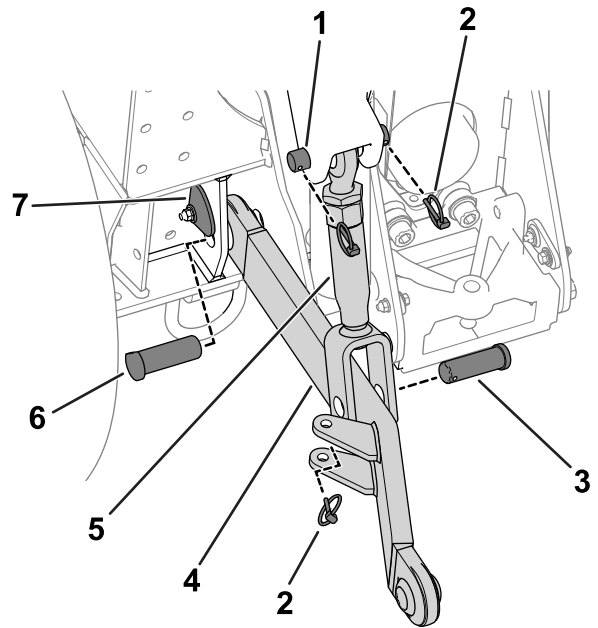
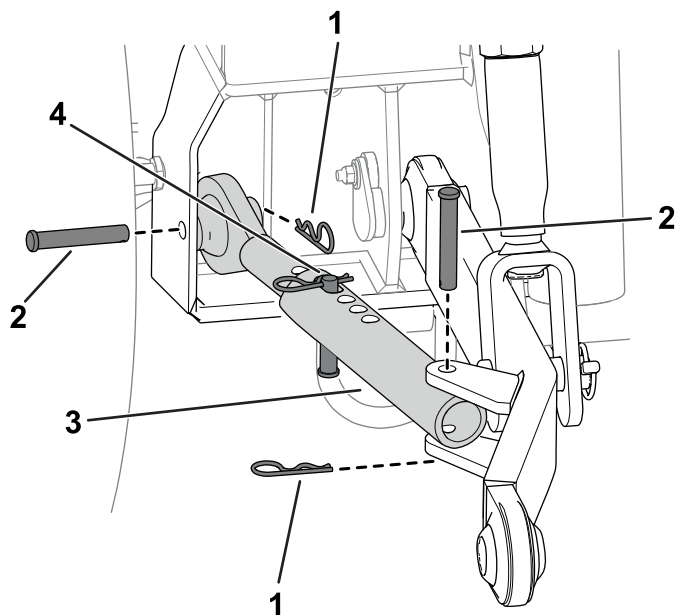

Figure 3
Figure 4
- A. Raise the pin plate (Figure 3), exposing the pin.
- B. Remove the lower pin (Figure 3).
- C. Position the draft link as shown in Figure 3.
- D. Insert the lower pin through the frame and draft-link joint (Figure 3).
3. Use a clevis pin and a lynch pin to secure the lift link to the draft link (Figure 3).
4. Use a clevis pin and a hairpin cotter to secure the sway links to the machine frame (Figure 4).
Note: Figure 3 and Figure 4 show link installation on the left side of the machine. Repeat this procedure for the right side of the machine.
1. Use a lift link pin and 2 lynch pins to secure the lift link to the machine lift arms (Figure 3).
5. Use a clevis pin and a hairpin cotter to secure the sway link to the draft link (Figure 4).
6. Install a clevis pin and hairpin cotter to the sway link (Figure 4).